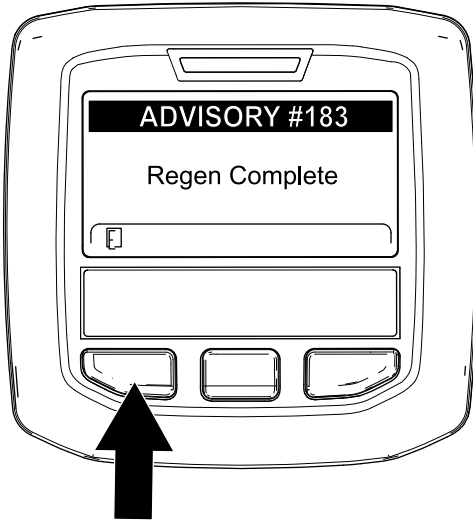

Figure 59
9. When the engine computer completes a parked or recovery regeneration, the InfoCenter displays ADVISORY #183 (Figure 59). Press the left button to exit to the home screen.